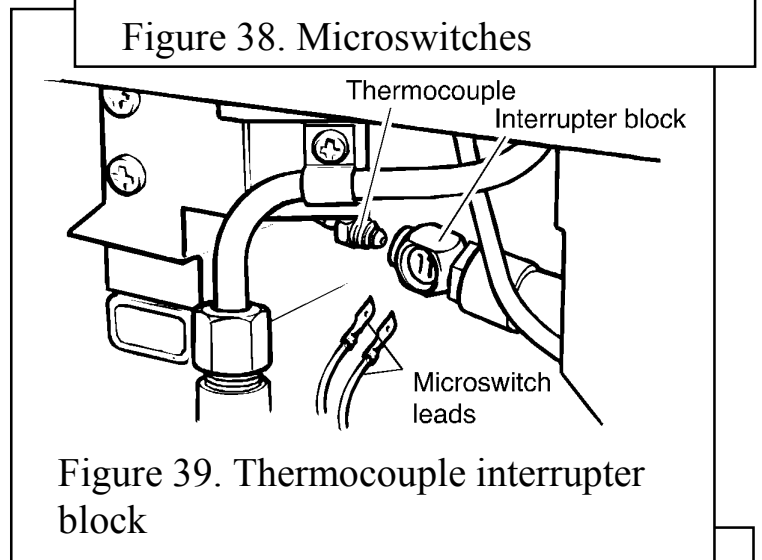

Figure 39. Thermocouple interrupter block
3. Loosen the thermocouple nut to free the microswitch leads and pull the leads clear of the thermocouple interrupter block. See figure 39.